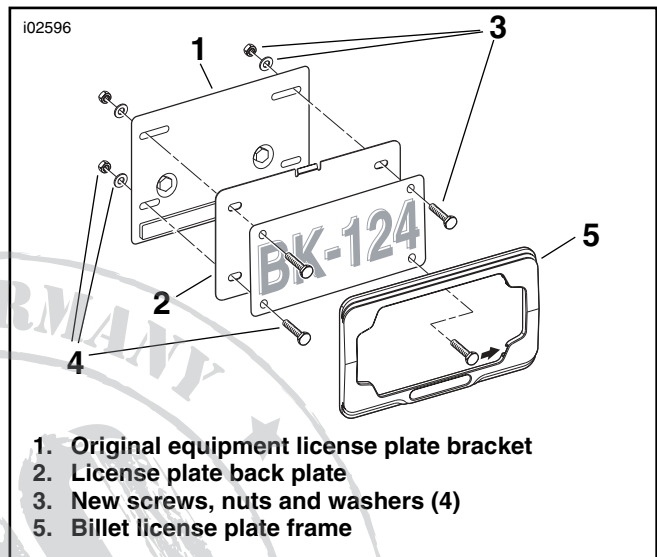

Figure 4. Install License and Frame (Touring Models)
- See Figure 4. Rotate the new license-plate frame to place the nameplate cavity at the top or bottom, as desired (see Figure 1). Insert two long "T"-slot screws (4) from the kit into the lower slots in the frame. Insert the two short "T"-slot screws (3) into the upper slots in the frame.